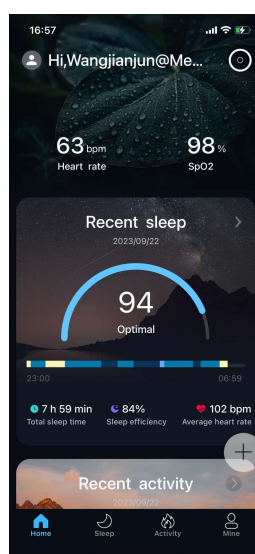

Figure 7
After checking that the MegaRing C30 is worn correctly, opening the MegaRing+ APP, and pairing the MegaRing C30 (which you only need to do the first time you use the Ring), the MegaRing C30 will automatically begin measuring your blood oxygen saturation (SpO2) and pulse rate (PR) data. The data and battery level will be shown on the MegaRing+ APP as shown in **Figure 7**.